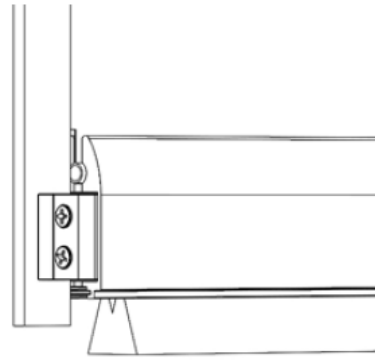

FIG B2
- Fasten the probe screws into the keder flaps (fig B2).